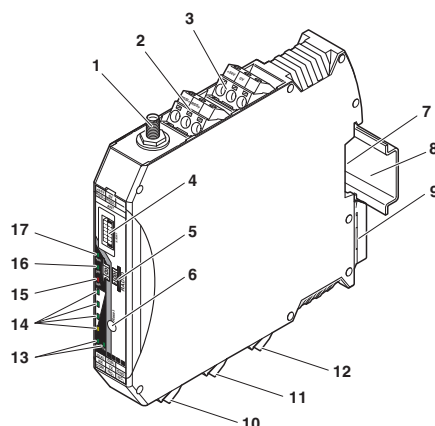

Figure 4-1 SATEL-LP24 and SATEL-LP8 structure
- Connect the single wires of the data cable to the COMBICON plug-in screw terminal block (Figure 4-1, item 10).